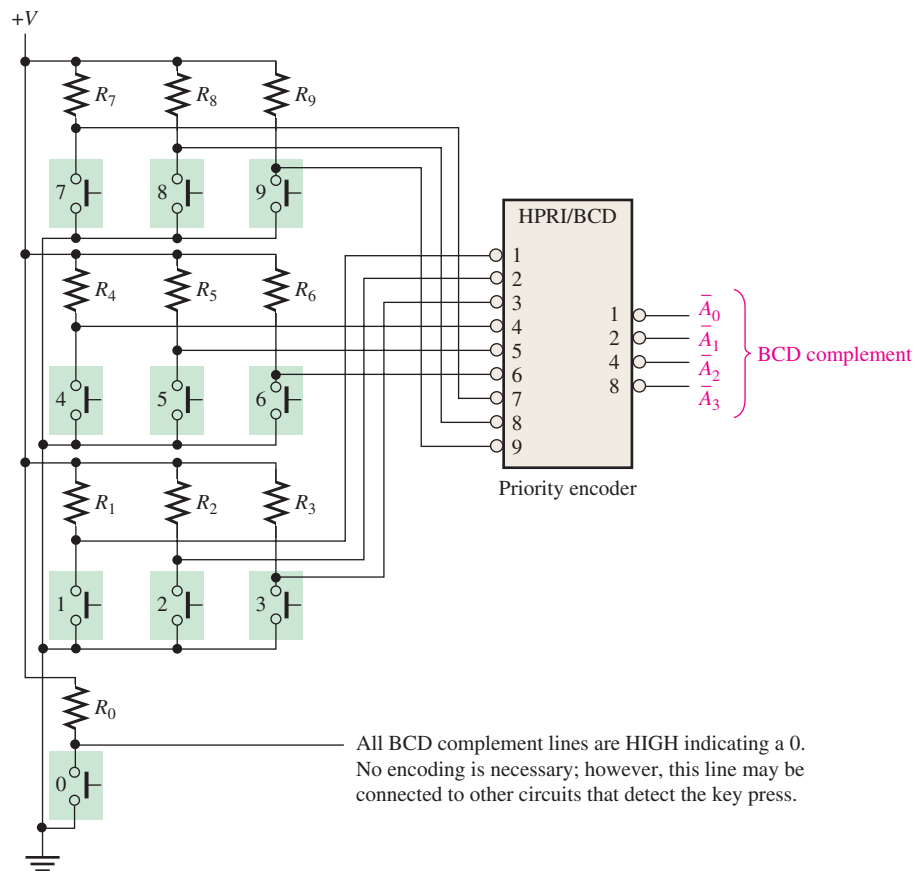

FIGURE 6–39 A simplified keyboard encoder.
The ten decimal digits on a numeric keypad must be encoded for processing by the logic circuitry. In this example, when one of the keys is pressed, the decimal digit is encoded to the corresponding BCD code. Figure 6–39 shows a simple keyboard encoder arrangement using a priority encoder. The keys are represented by ten push-button switches, each with a **pull-up resistor** to +V. The pull-up resistor ensures that the line is HIGH when a key is not depressed. When a key is depressed, the line is connected to ground, and a LOW is applied to the corresponding encoder input. The zero key is not connected because the BCD output represents zero when none of the other keys is depressed.
1. Suppose the HIGH levels are applied to the 2 input and the 9 input of the circuit in Figure 6–37.
- (c) What is the restriction on the encoder logic in Figure 6–37?
2. (a) What is the $\bar{A}_3 \bar{A}_2 \bar{A}_1 \bar{A}_0$ output when LOWs are applied to pins 1 and 5 of the 74HC147 in Figure 6–38?